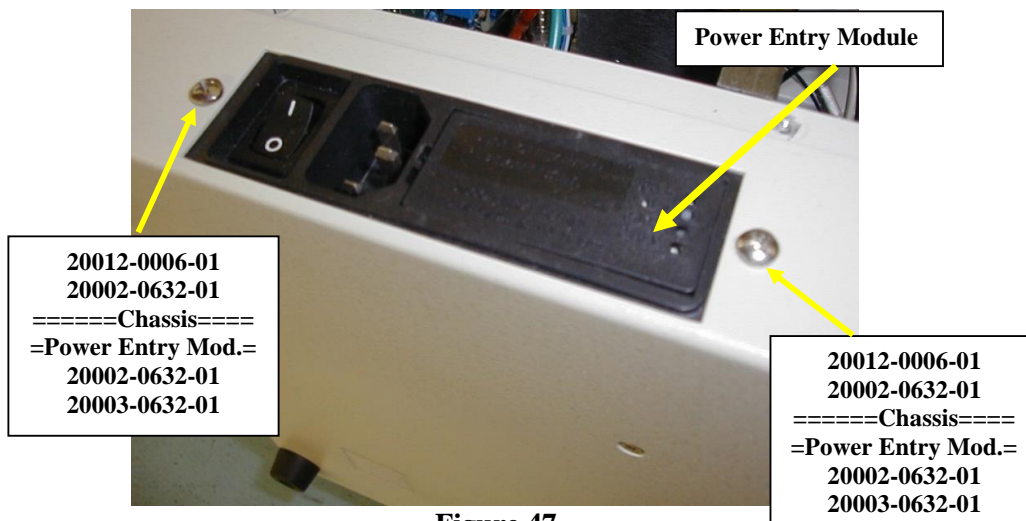

Figure 47
- 18.1. Place a 6-32x $\frac{3}{8}$ " Pan Head Screw (20012-0006-01) through a #6 Lockwasher (20002-0632-01) then through the Chassis hole on the left side (see Figure 47), attach the Power Entry Module, place a #6 Lockwasher (20002-0632-01), then a 6-32 Nut (20003-0632-01). Repeat for right side. Do not tighten the Screws yet.